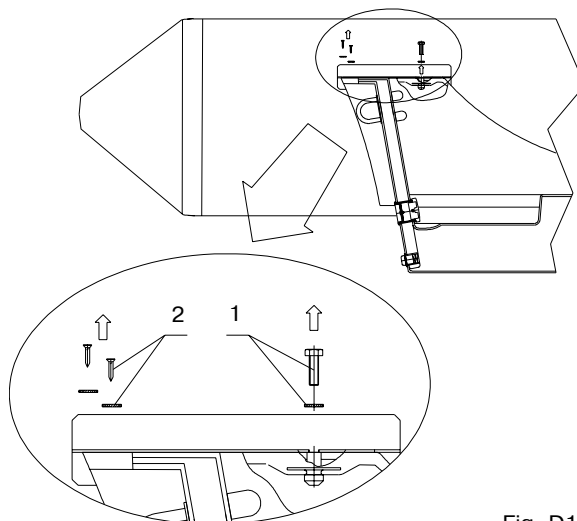

Fig. D1
1. Unscrew 2 bolts M8 with washers (pos.1 Fig.D1) and 4 screw with washers (pos.2 Fig.D1) from transom platform of your boat.
2. Bore out 4 holes where shear screw (pos.2 Fig.D1) were installed with drill 7mm diameter for further installation of bolts M6.